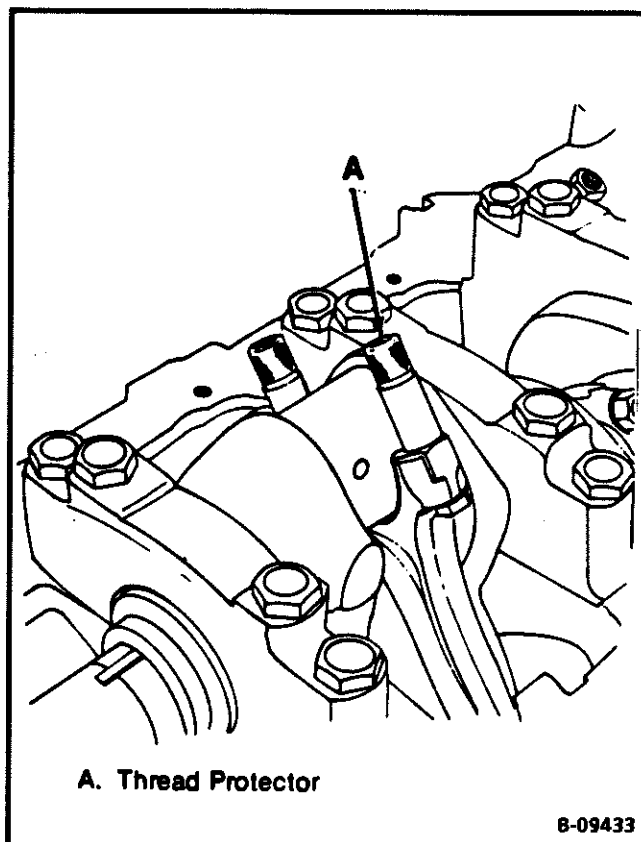

Figure 24 - Replacing the Piston and Connecting Rod (Typical)
5. Connecting rod and piston (Figure 24).